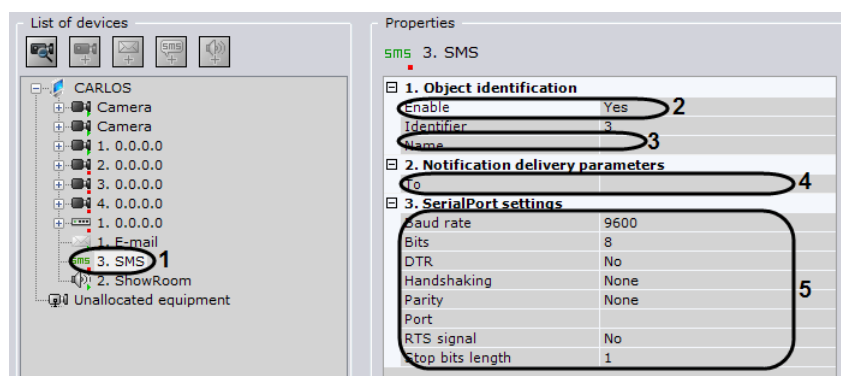

Fig. 6.3—29 Configuring an SMS object
1. In the list of devices, highlight the **SMS** object which needs to be configured (Fig. 6.3—29, 1).
2. Activate the **SMS** object (see Fig. 6.3—29, 2) by selecting **Yes** in the **Enable** list.
3. In the **Name** field (see Fig. 6.3—29, 3), enter the desired name for the **SMS** object.
4. In the **To** field (see Fig. 6.3—29, 4), enter the cellular telephone number to which messages will be sent.
5. In the **SerialPort settings** group (see Fig. 6.3—29, 5), indicate the port settings used to connect to the GSM modem by which SMS messages will be sent: